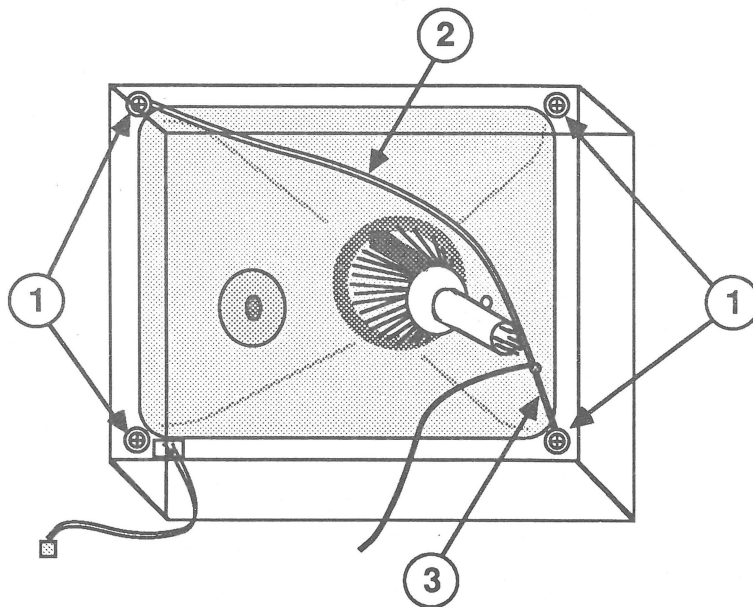

FIGURE 16
7. Remove the four mounting screws from the corners of the CRT (Figure 16, #1).
9. Remove the grounding strap (Figure 16, #2) and the spring (Figure 16, #3). Save them to use on your replacement CRT.
2. Loop the grounding strap (Figure 16, #2) over the top-left screw bracket, and attach the spring (Figure 16, #3) to the bottom-right screw bracket on the CRT.
4. Replace the four mounting screws in the corners (Figure 16, #1). The washers go on the corners that have the attached grounding strap and spring.